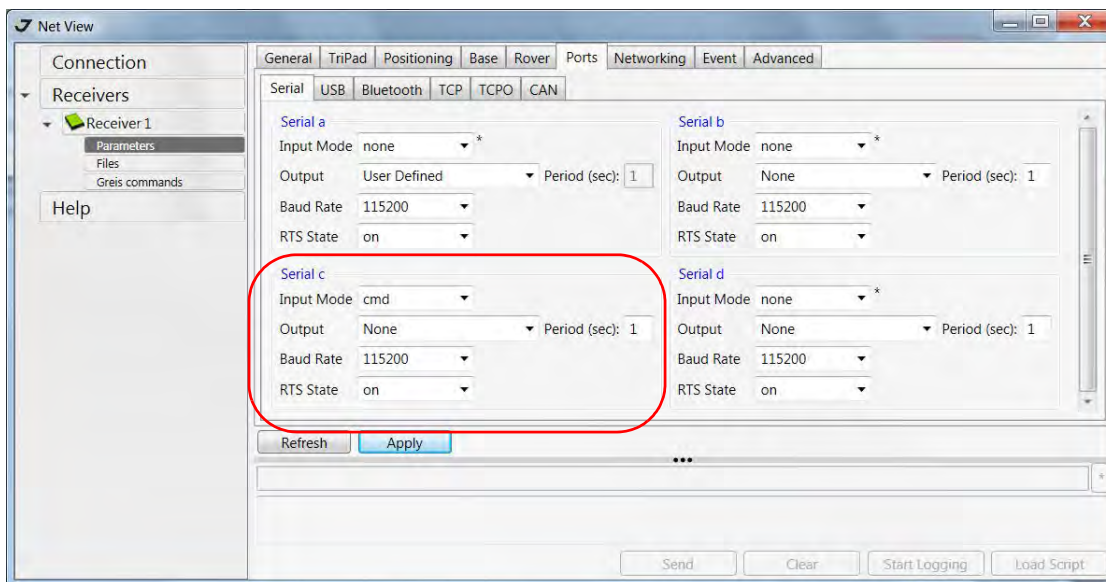

Figure 17. Ports tab
8. For RTK survey, open the *Ports* tab and set up the parameters according Table 6, then click *Apply* (Figure 17 on page 39).